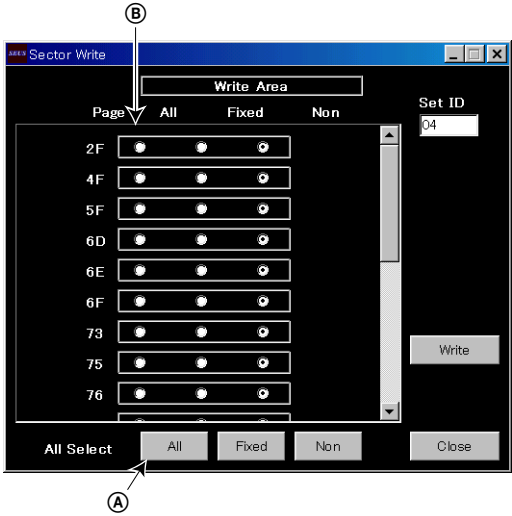

Fig. 6-1-8.
- 4) Click [All] of the ALL SELECT buttons to select all pages. (Fig. 6-1-8. ㉑)
- 4) Click [All] of the option buttons of the target page. (Fig. 6-1-8. ㉒)